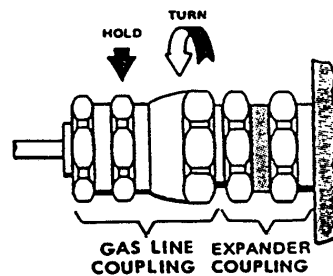

Figure 17 Disconnect the Gas Line from the Cold Head
2. After breaking the connection, hold the coupling adapter with one wrench. Remove the gas line coupling from the cold head coupling with the second wrench. See Figure 17. Remove both gas lines from the cold head.